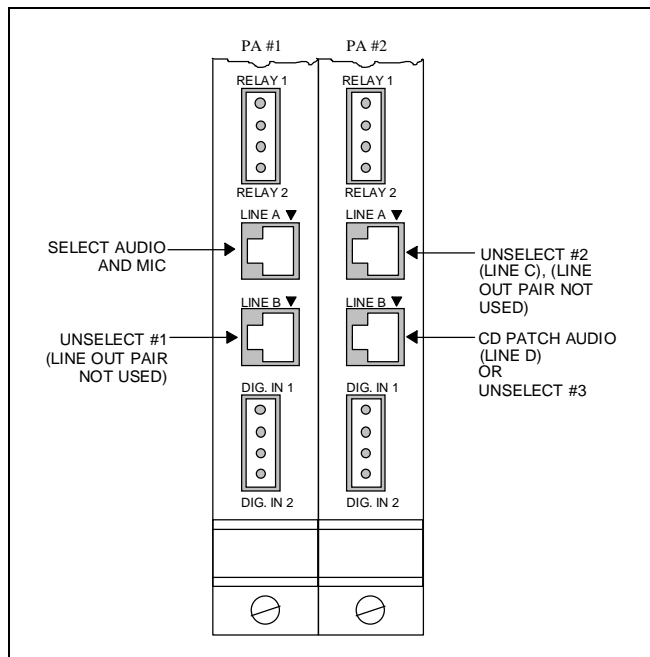

Figure 7 – Audio PA Boards' Modular Jacks
At the C3 Maestro, audio connections terminate at RJ-11 modular jacks on the Audio PA Board(s) in the Audio Tower. These jacks are labeled "LINE A" and "LINE B". Table 6 shows line requirements between the C3 Maestro and the CEC/IMC for each audio input or output 2-wire pair. Note that two (2) output pairs, Line B out on board #1 and Line A out on board #2, are never used. Table 5 gives the modular jack pin-outs and Figure 7 shows their locations. Interconnect the required pairs between the Audio PA Board(s) and the appropriate CEC/IMC Audio Concentrator Card. Shielded pairs are recommended.